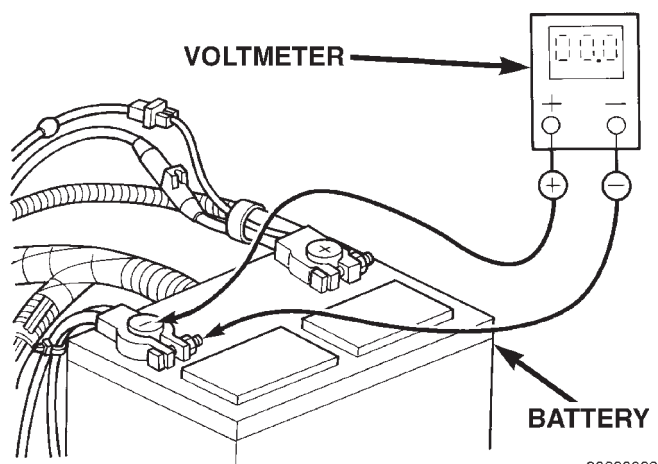

Fig. 11 Test Battery Negative Connection Resistance - Typical
(1) Connect the positive lead of the voltmeter to the battery negative terminal post. Connect the negative lead of the voltmeter to the battery negative cable clamp (Fig. 11). Rotate and hold the ignition switch in the Start position. Observe the voltmeter. If voltage is detected, correct the poor contact between the cable clamp and the terminal post.